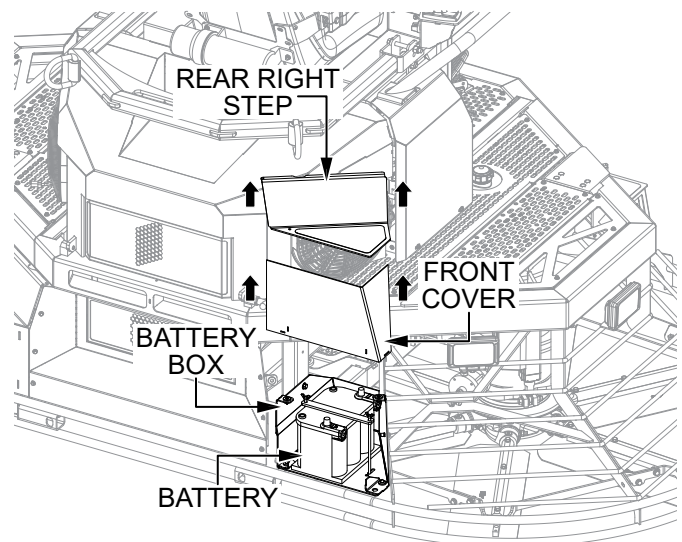

Figure 3. Access Battery
1. To access the battery, pull upward on the rear right step (Figure 3) to remove it. Set the step aside.
2. Remove the battery box front cover (Figure 3) and set it aside.